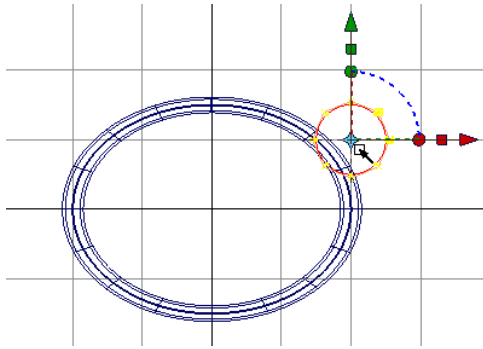

Figure 3-70 Circle created as a generation curve
4. Press the ALT key and click at the **Grid**; a circle is created on the plane on which the base feature is placed, as shown in Figure 3-70.